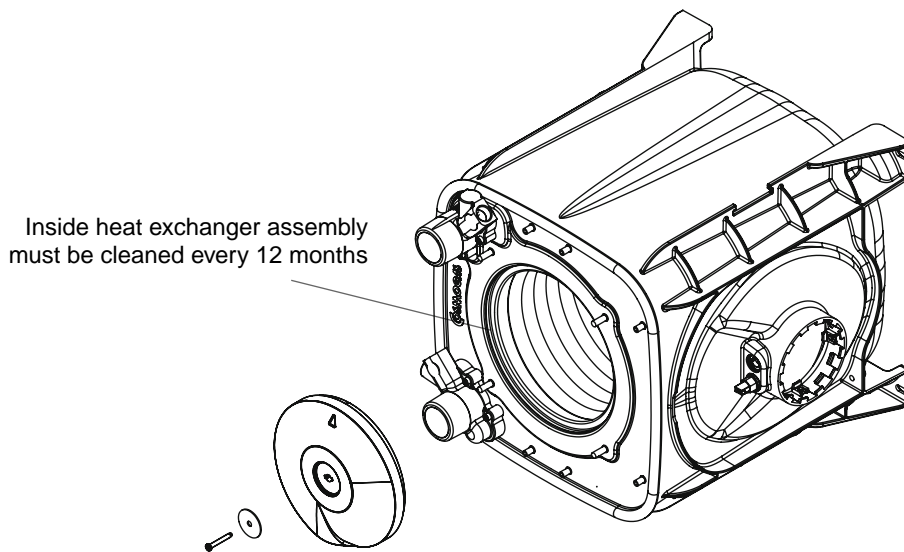

Figure 38.
1. The upper and lower TitanTough Heat Exchanger assembly must be inspected every 12 months and cleaned. It is recommended to call a qualified service technician to inspect the heat exchangers. See Figure 38.